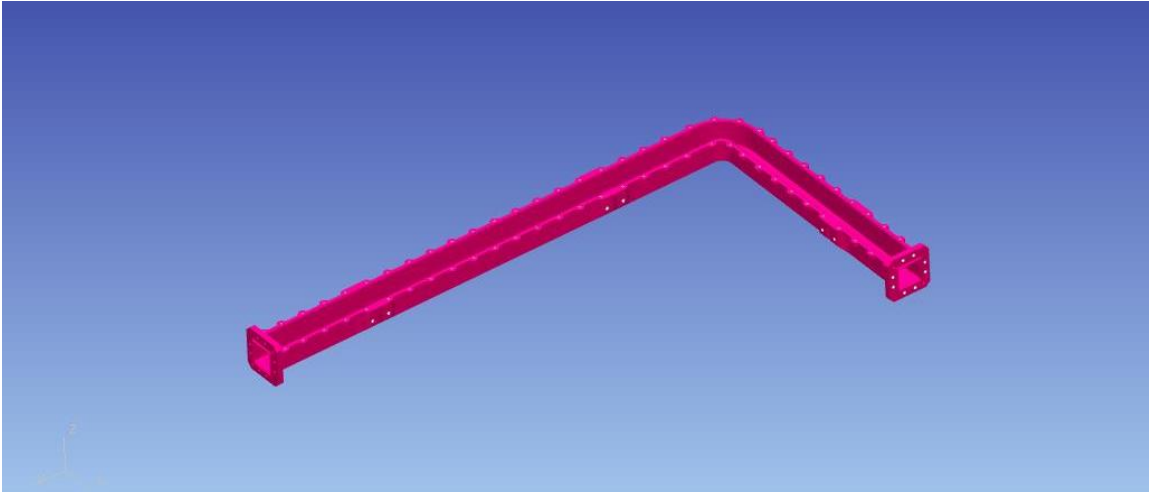

Figure 3: Squareax Housing
2. Place squareax housing (Figure 3) on workbench.
2. Place square housing (Figure 3) on workbench.